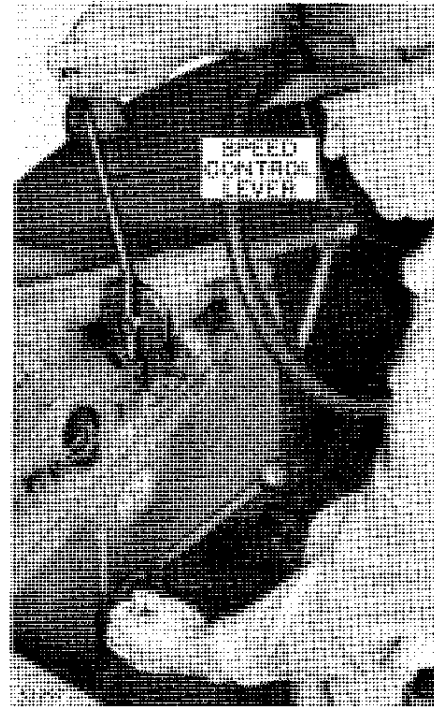

Figure 10-10-5—Advancing Speed Control Lever
(5) Release the decompression lever. This puts the diesel engine on full compression. Allow the engine to turn over several revolutions on full compression, then advance the speed control lever about half way (Figure 10-10-5).
(6) As soon as the diesel engine starts, release the cranking engine clutch lever. In cold weather, if the diesel engine fails to start in 15 seconds, re-